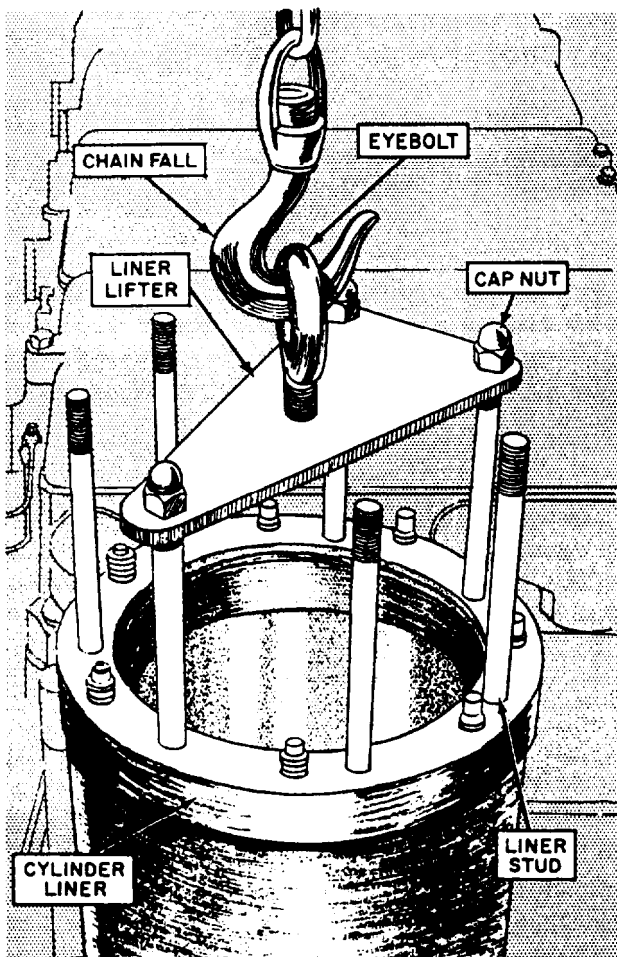

Figure 3-9.—Removing a cylinder liner.
If you must remove a liner, follow the instructions given on the appropriate maintenance requirement card (MRC) or in the manufacturer's technical manual for the particular type of engine. Figure 3-9 illustrates the method generally used to remove a cylinder liner.
5. Attach the hook of the chain fall and pull slightly until the liner breaks free (fig. 3-9). If the liner fails to break loose immediately, apply pressure at the bottom of the liner. To do this, place a block of wood on the crankshaft throw, and force it up against the liner by rotating the turning gear.